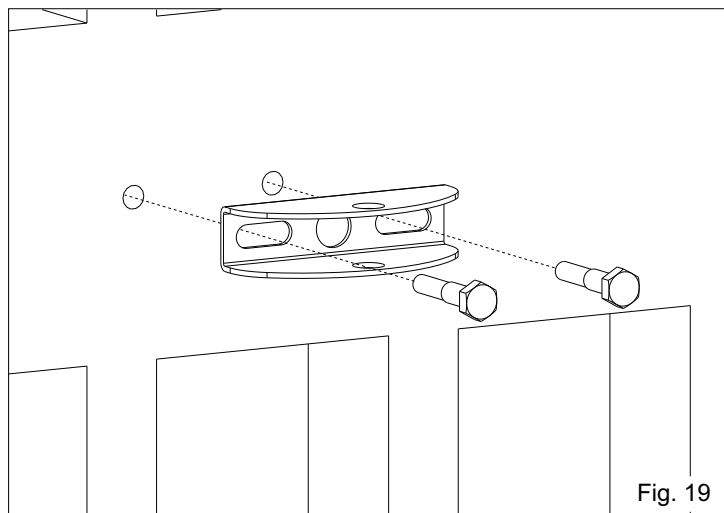

Fig. 19
- Perforate the leaf and fix the front bracket with the screws (Fig. 19)